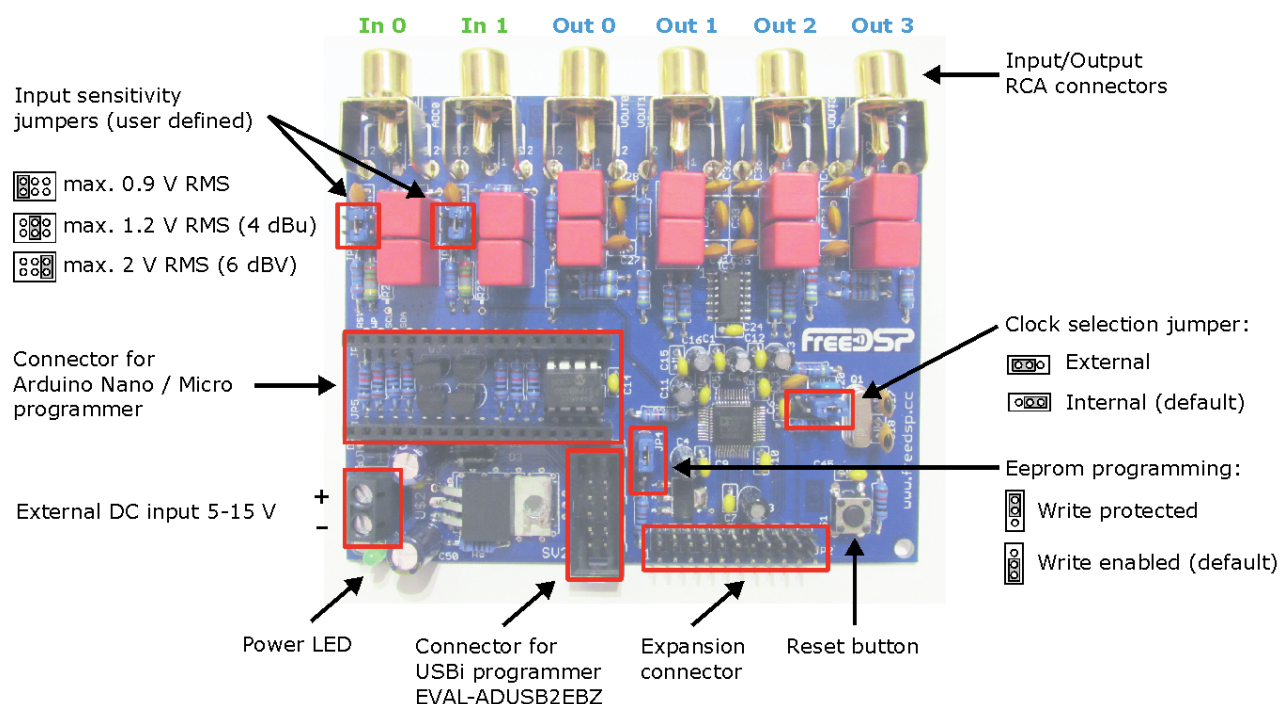
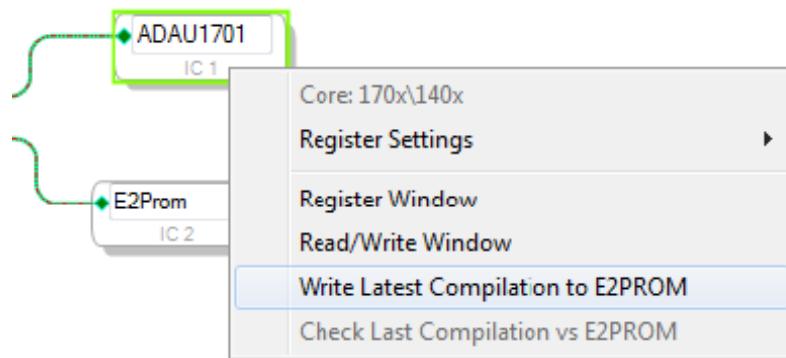

Figure 1 - Overview of the freeDSP board V1.0.
Figure 11 - Store the latest compiled version of your schematic to the freeDSP.
Figure 1 shows the key features and **default jumper settings** of the freeDSP board. E.g., the input sensitivity can be selected for each channel with jumpers. Try to get maximum output level, but avoid clipping of the audio signal. The output signal is always max. 0.9 V RMS. The following sections will guide you through the freeDSP workflow. For advanced information (e.g., pinout of the expansion connector, ...) have a look in the Appendix.
7. Be sure that the EEPROM programming jumper is in the 'write enabled' position as labeled in bottom right corner of Figure 1. Please note that the jumper in the photo is in the wrong position for programming!
12. Change to the 'Hardware Configuration' tab. Right click on the ADAU1701 block and select 'Write Latest Compilation to EEPROM' as shown in Figure 11.
To run the freeDSP without a computer connection, the program needs to be stored in the internal memory of the board – the EEPROM. This step is only necessary for USBi programming, because the program will always be written to the EEPROM if you are using an Arduino. Be sure that the EEPROM programming jumper is in the 'write enabled' position as labeled in bottom right corner of Figure 1. Please note that the jumper in the photo is in the wrong position for programming! In SigmaStudio change back to the 'Hardware Configuration' tab. Right click on the ADAU1701 block and select 'Write Latest Compilation to E2PROM' as shown in Figure 11 and confirm the next window. Then right click on the ADAU1701 block again and 'Check Last Compilation vs. E2PROM'. If you now switch to an external power supply or push the reset button on the freeDSP, the board will load the program from the EEPROM. (If you unplug the USBi programmer from your computer, it also needs to be disconnected from the freeDSP board. Otherwise your freeDSP will not start.)